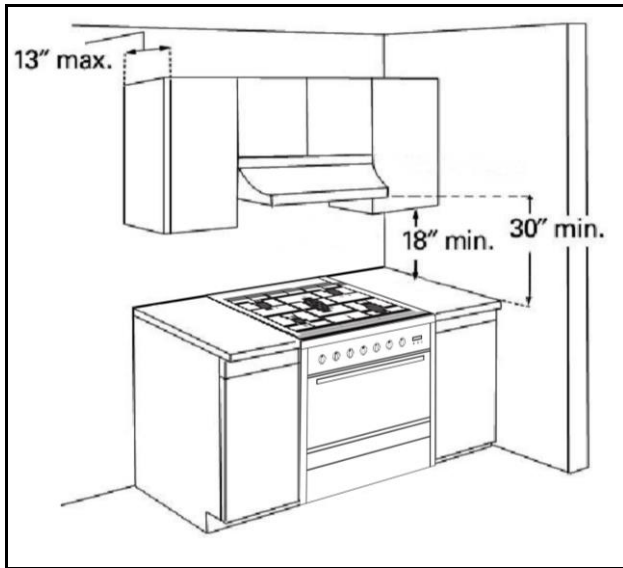

Figure 1
- **⚠** To eliminate the risk of burns or fire by reaching over heated surface units, cabinet storage space located above the surface units should be avoided. If cabinet storage is to be provided, the risk can be reduced by installing a range hood or microwave hood combination with minimum 400 CFM that projects horizontally a minimum of 5" (12.7 cm) beyond the bottom of the cabinets. (See Figure 1)
- **⚠** If a range hood is installed above the appliance, maintain a 30" minimum clearance between cooking surface and bottom of range hood. The range hood must be connected directly to flues or to the outside. (See Figure 1)
-  Avoid placing cabinetry directly above the appliance when possible. If cabinetry is used above the cooking surface, use cabinets no more than 13" deep. Make sure the wall coverings, countertop and cabinets around the appliance can withstand heat up to 200° F (93°C) generated by the appliance. (See Figure 1)
-  Cabinet opening dimensions that are shown must be used. Given dimensions are minimum clearances. (See Figure 1)
-  Working areas adjacent to the range should have 18" minimum clearance between countertop and cabinet bottom. (See Figure 1)
•  Avoid placing cabinetry directly above the appliance when possible. If cabinetry is used above the cooking surface, use cabinets no more than 13" deep. Make sure the wall coverings, countertop and cabinets around the appliance can withstand heat up to 200° F (93°C) generated by the appliance. (See Figures 1 and 2)
•  Cabinet opening dimensions that are shown must be used. Given dimensions are minimum clearances. (See Figures 1 and 2)
- Working areas adjacent to the range should have 18" minimum clearance between countertop and cabinet bottom. (See Figures 1 and 2)